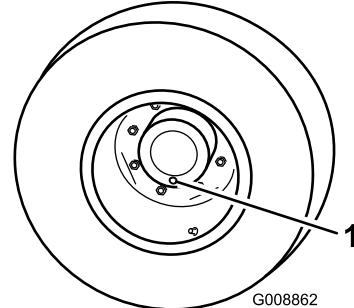

Figure 82
1. With the machine on a level surface, position a wheel so a check plug is at the lowest (6 o'clock) position (Figure 82).